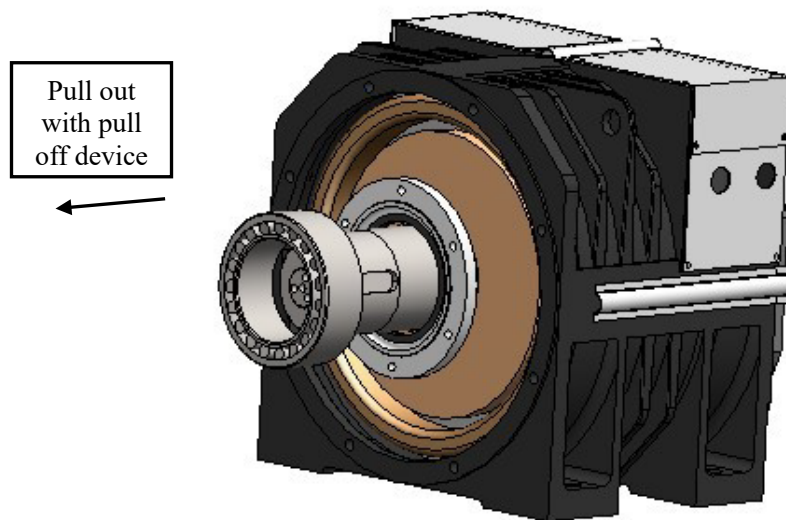

Figure 83 Remove Front bearing
9. Pull out the bearing with the bearing puller. (It is permissible to cut the bearing off.) See Figure 83.